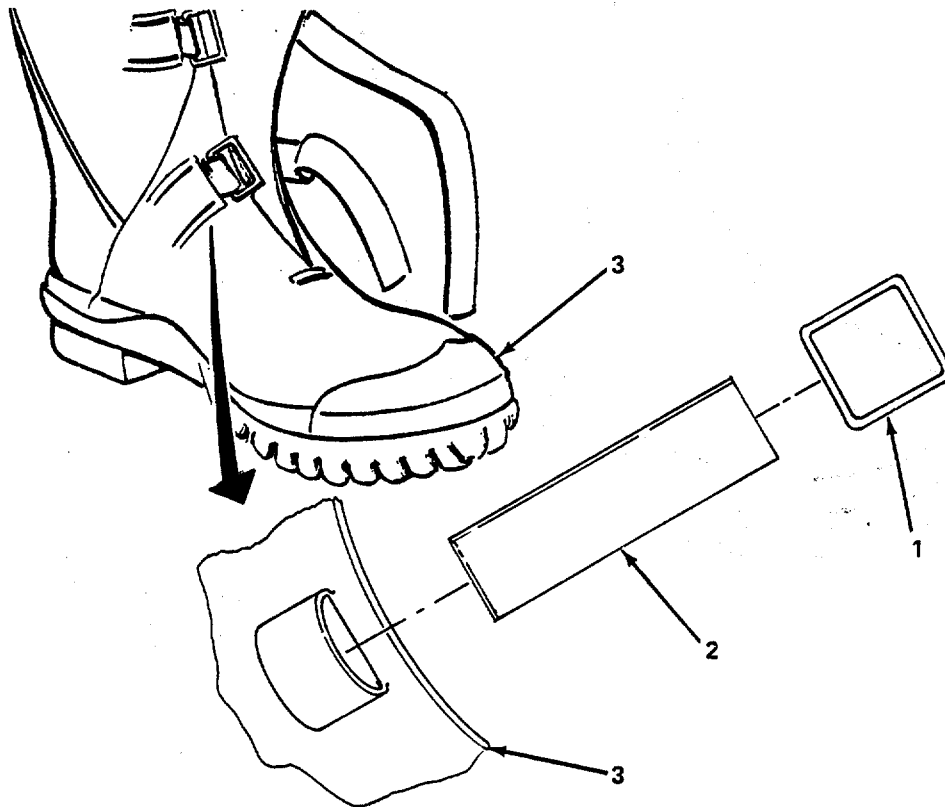

Figure 4-5. Loop, Repair.
(2) *Replace loop.* (figure 4-5)